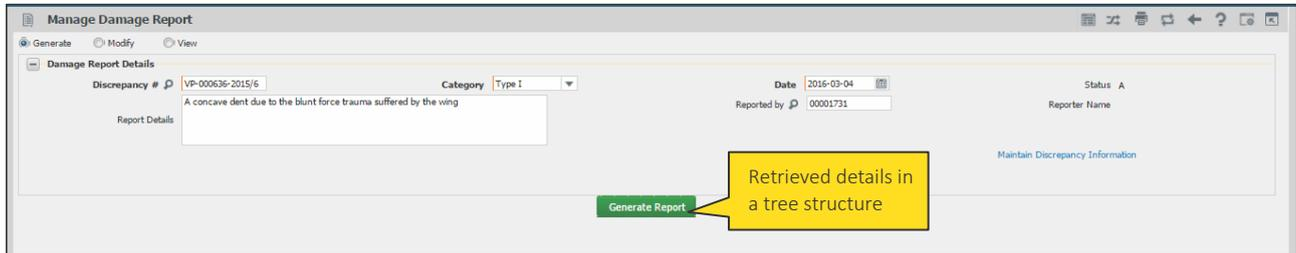

Figure 3.12 Mark a damage and create new damage report
1. Select the **Manage Damage Reports** activity under the **Structural Damage Report** business component. The **Manage Damage Report** page appears. See Figure 3.12.